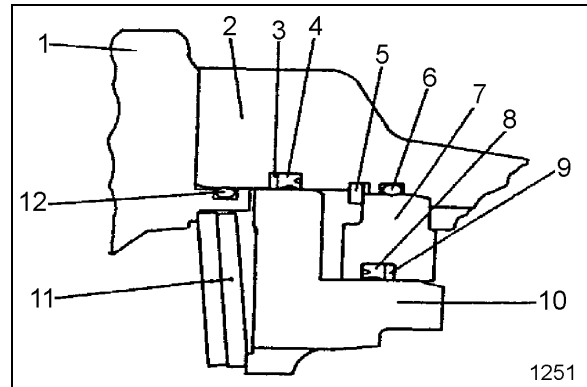

Figure 331
14. Install two cup springs and center them (noting installation position in Figure 331).